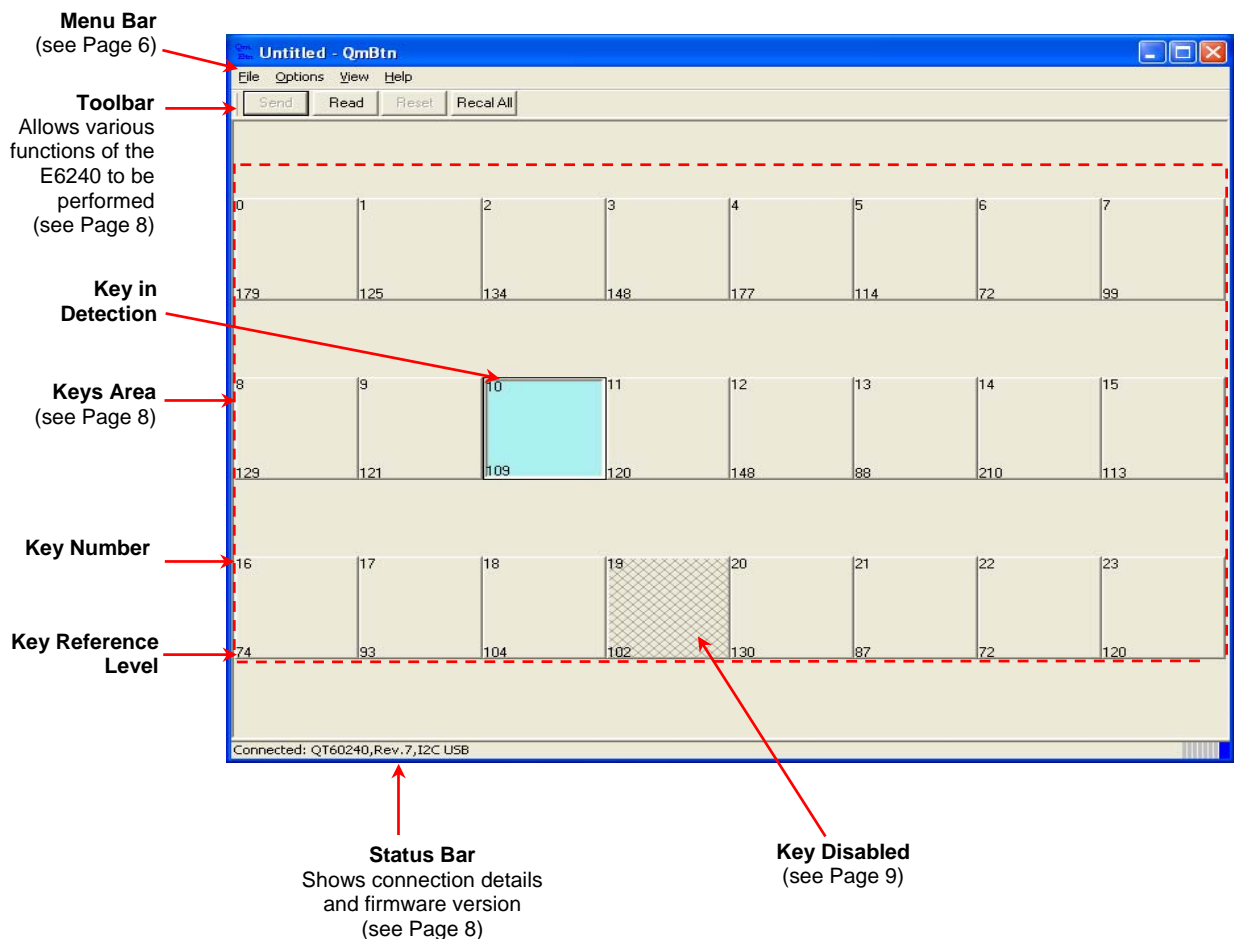
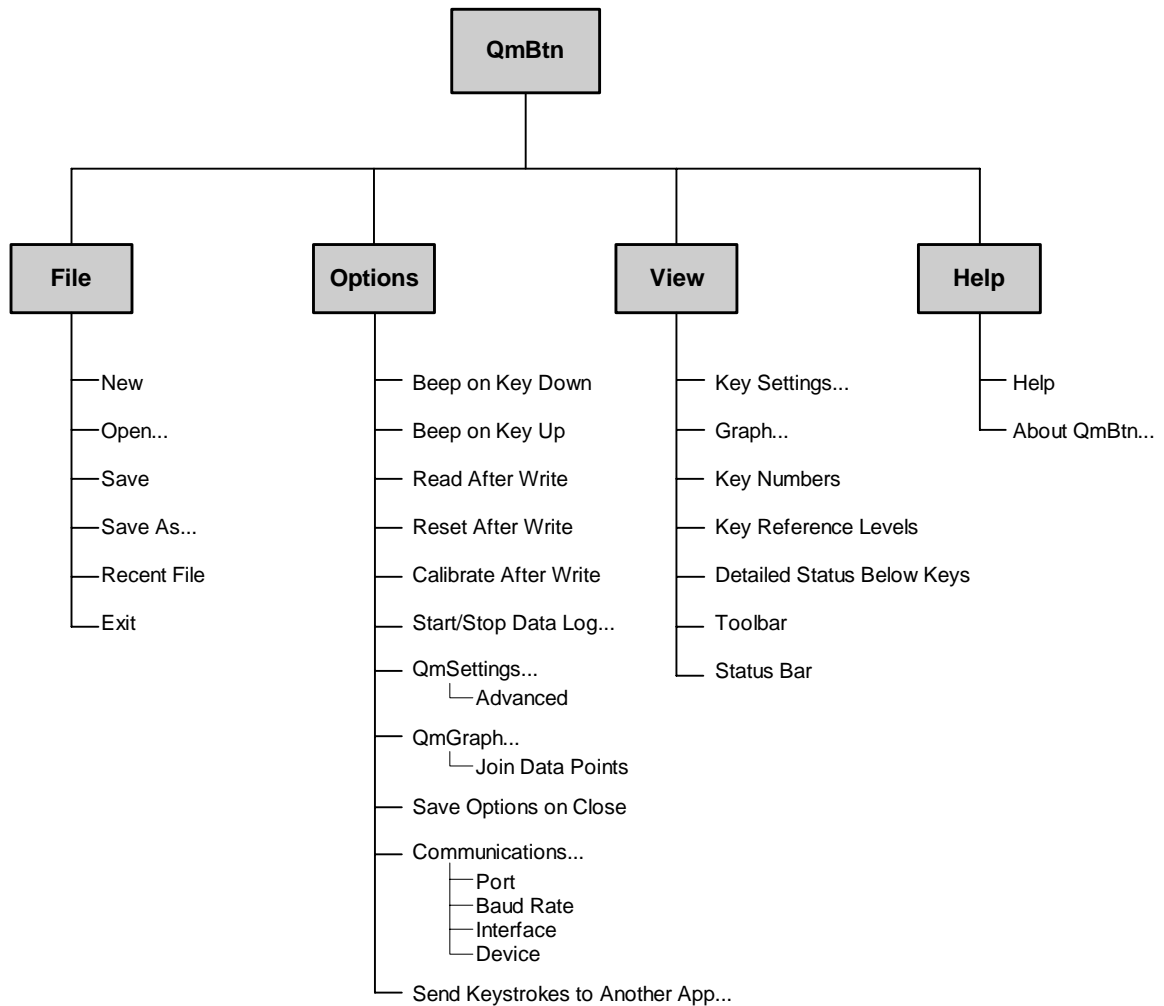

Figure 3: QmBtn Dialog Box
Figure 4: QmBtn Software Menu Structure
- the **QmBtn** dialog box (which opens when the program starts – see *Figure 3, page 5*)
Refer to *Figure 3*, page 5 for the location of the Menu bar and *Figure 4* for the menu structure and commands.
If a key area on the E6240 is touched then the corresponding key area on the QmBtn turns blue for the duration of the touch. If a key is disabled the corresponding key area on the QmBtn appears shaded, with a criss-cross pattern (see *Figure 3*).